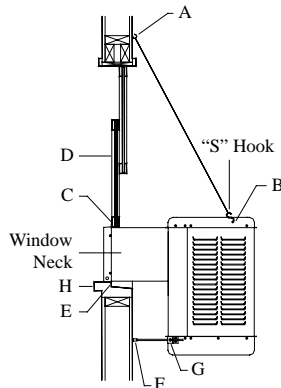

Fig. 2
- **NOTE: If installing unit without the use of the installation kit, omit these directions and those pertaining to Fig. 2.**
- **Screw chain hooks into window facing.** Position the two chain hooks above the neck of the cooler a distance equal to the width of the cooler apart (A-Fig. 2). Hook one hanger chain in each hook and then one "S" hook in the other end of each chain. **NOTE:** Chain hooks supplied with this mounting kit have wood screw threads for wood walls. Concrete, brick walls or concrete blocks require sufficiently strong wing nuts or anchors with mating hooks.
- **Position cooler in window.** Position neck of cooler so that the flange (E-Fig. 2) is snug against edge of sill (H-Fig. 2). With cooler in position, hook the "S" hooks into the holes of the top pan near the back of the cooler (B-Fig. 2).
- **Place window behind retainer strip.** Raise back of cooler so that the window (D-Fig. 2) may be brought down behind top of panel retainer strip (C-Fig. 2).
- **Adjust house legs.** Pull out house legs so that the rubber bumpers rest against house siding (F-Fig. 2). Tighten screw in retaining collar (G-Fig. 2).